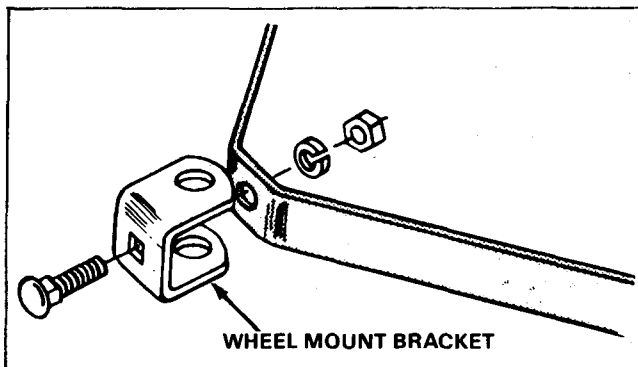

Figure 80
9. See Figure 80. Assemble the wheel mount bracket to the frame bar and one 5/16" X 3/4" carriage bolt inserted through the square hole and secured with one 5/16" lock washer, and one 5/16" hex nut - on the inside of the frame bar. Tighten securely.